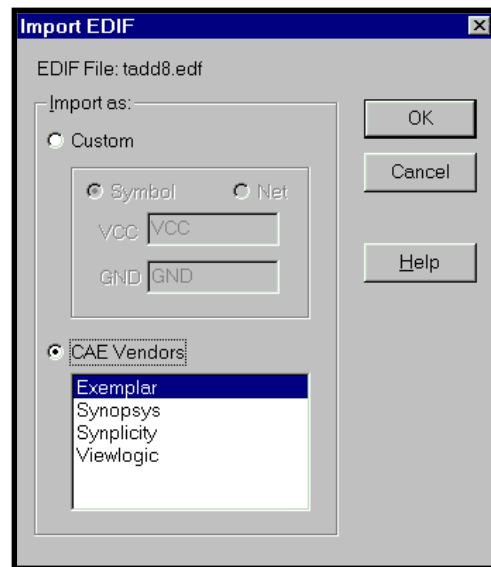

Figure 3-31. Import EDIF Dialog Box
3. Click **Open**. If you have selected an ispLSI or GAL device, the EDIF Reader Settings dialog box appears (Figure 3-30). If you have selected a MACH or PAL device, the Import EDIF dialog box displays (Figure 3-31).